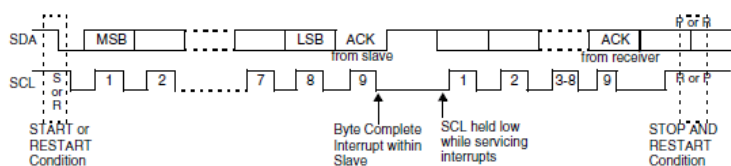

Figure 20: Data Transfer on the I2C Bus
If the master (master-transmitter) is writing to the slave (slave-receiver), the receiver gets one byte of data. This transaction continues until the master terminates the transmission with a STOP condition. If the master is reading from a slave (master-receiver), the slave transmits (slave-transmitter) a byte of data to the master, and the master then acknowledges the transaction with the ACK pulse. This transaction continues until the master terminates the transmission by not acknowledging (NACK) the transaction after the last byte is received, and then the master issues a STOP condition or addresses another slave after issuing a RESTART condition. This behavior is illustrated in Figure 20.
**Note 4:** The signal transitions for the START/STOP conditions, as depicted in Figure 20, reflect those observed at the output signals of the Master driving the I2C bus. Care should be taken when observing the SDA/SCL signals at the input signals of the Slave(s), because unequal line delays may result in an incorrect SDA/SCL timing relationship.